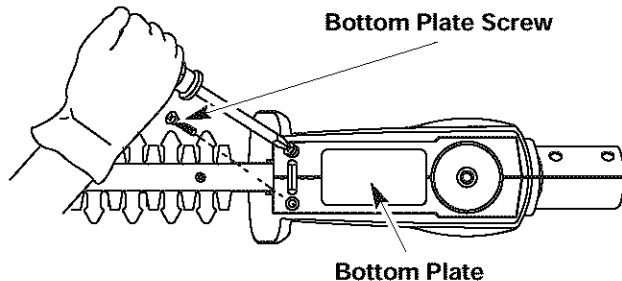

Fig. 8
1. Place hedge trimmer upside down on workbench and remove two (2) bottom plate screws (Fig. 8).